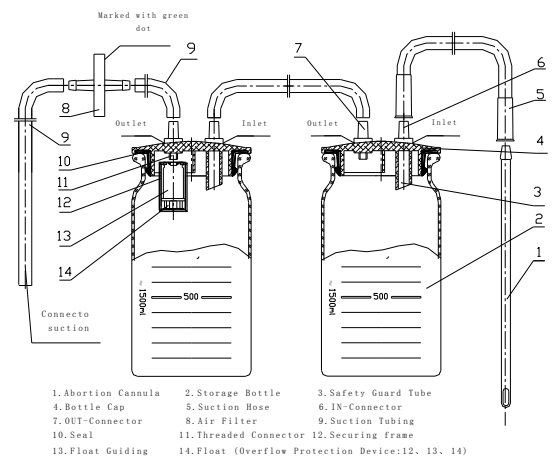

Fig.2 Pipeline connection diagram
1. Connect pipeline (see also Fig .2)
Note: When operating the unit another time, the overflow protection device and suction tubing must be connected correctly according to Fig.2